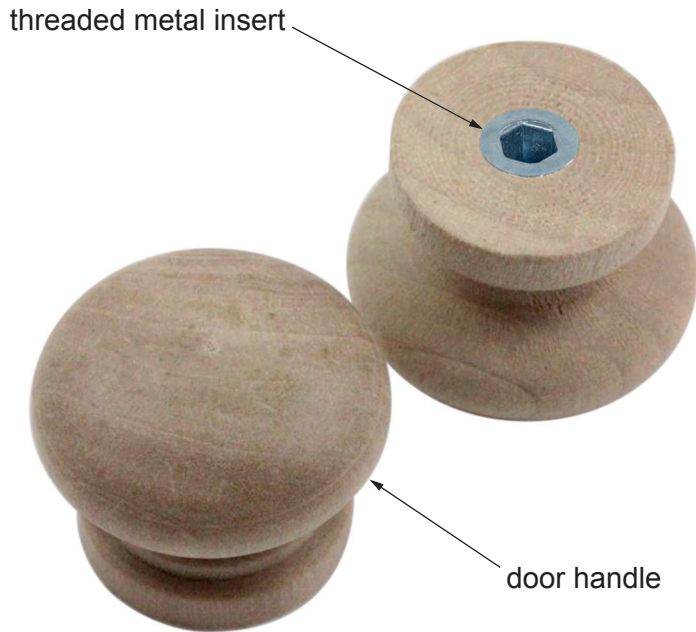
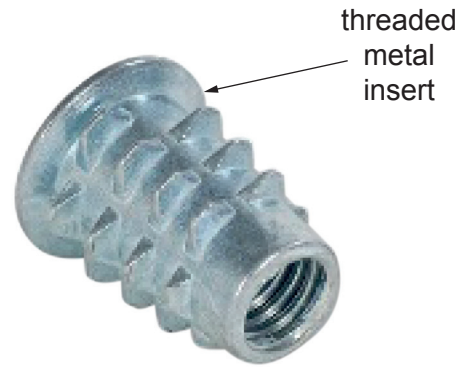

Fig. 3.1
Fig. 3.2
- 3 Fig. 3.1 shows two views of a handle for a cupboard door made from hardwood. Fig. 3.2 shows the threaded metal insert from Fig. 3.1.
- (a) Use annotated sketches and/or notes to show how the threaded metal insert shown in **Fig. 3.2** would be manufactured as a batch of 7 000.